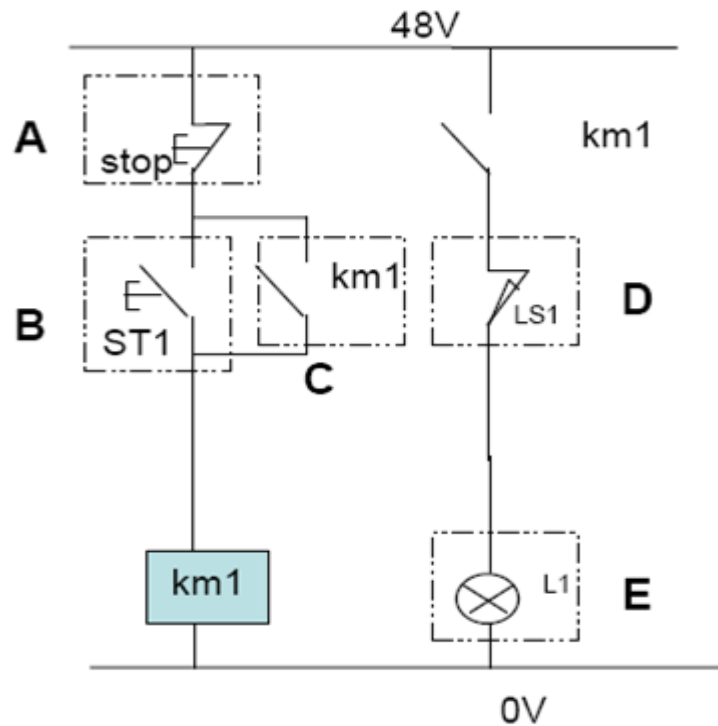

Figure 9: Schematic diagram of a simple control circuit
Consider a control circuit shown in **Figure 9**.
- (c) Modify the control circuit in **Figure 9** by adding a yellow indicator light and another start button (ST2). The yellow indicator light shows that the power supply is ON and when one of the two start button is pressed (ST1 or ST2), the yellow light will OFF. **Note:** You are allowed to use as many as contactors and relays (10 marks)